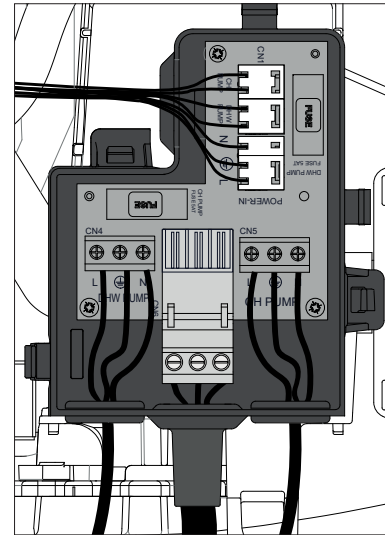

Figure 47 - 120V Connections for DHW and CH Circulators
6. Connect the cable on the connector CN5 (DHW pump) and CN4 (CH pump). See Figure 47 and Electrical Wiring Diagram, Figure 52.